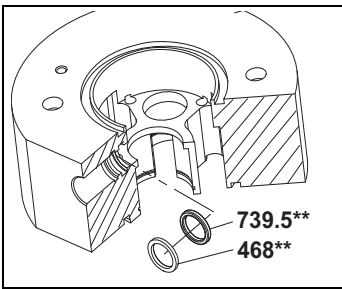

Fig. 16
10. Remove the o-ring **739.5**** and supporting ring **468**** from the bearing cover **080.1**, see Fig. 16, page 33.